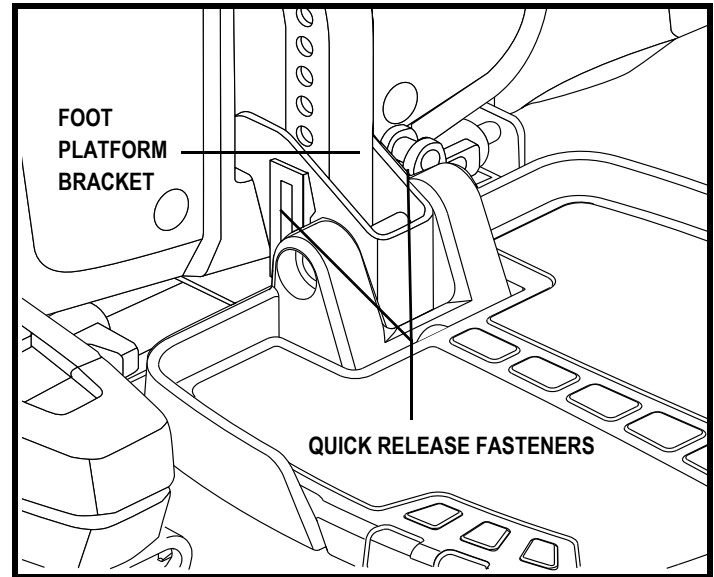
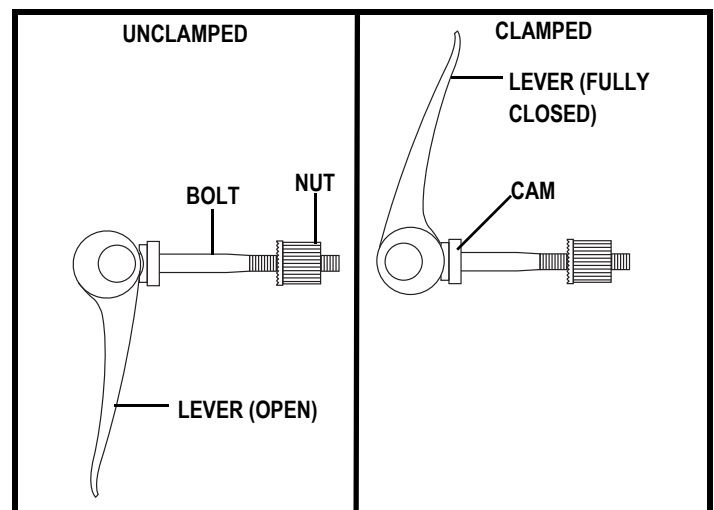

Figure 21. Foot Platform Adjustment
Figure 22. Quick Release Fastener Operation
1. Remove the quick release fasteners from the foot platform bracket. **See figure 21.**
Quick Release Fasteners: The foot platform is attached to the power base with two quick release fasteners. **See figure 21.** Each quick release fastener consists of a bolt, a lever, and a nut. **See figure 22.** The lever has a cam on the end that allows it to clamp into place. The quick release fastener has two states: clamped and unclamped. When the lever is open, the quick release fastener is unclamped. When the lever is closed, the quick release fastener is clamped.